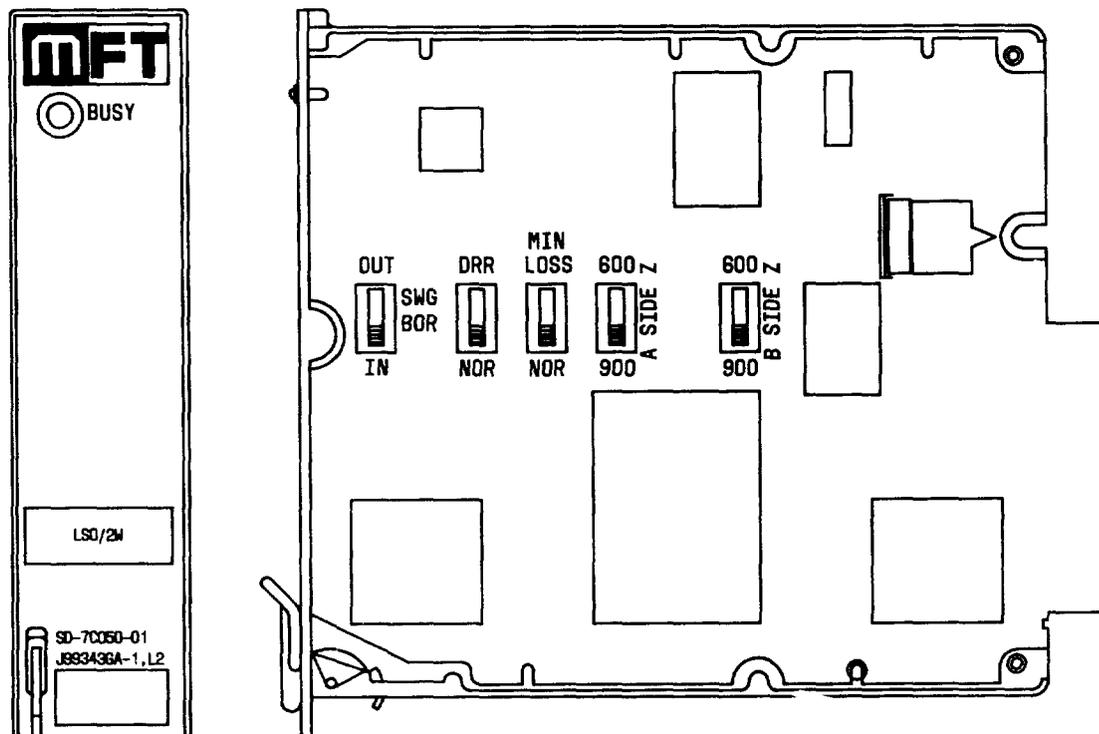
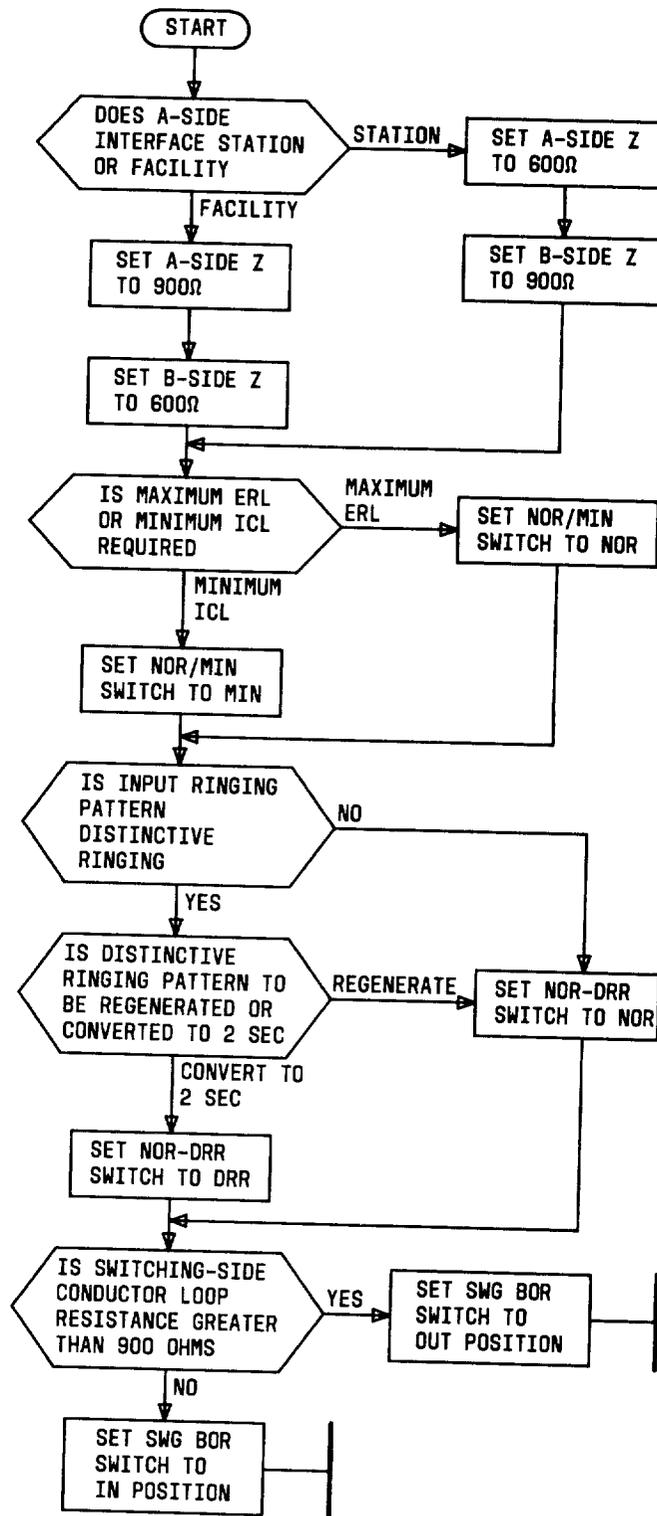
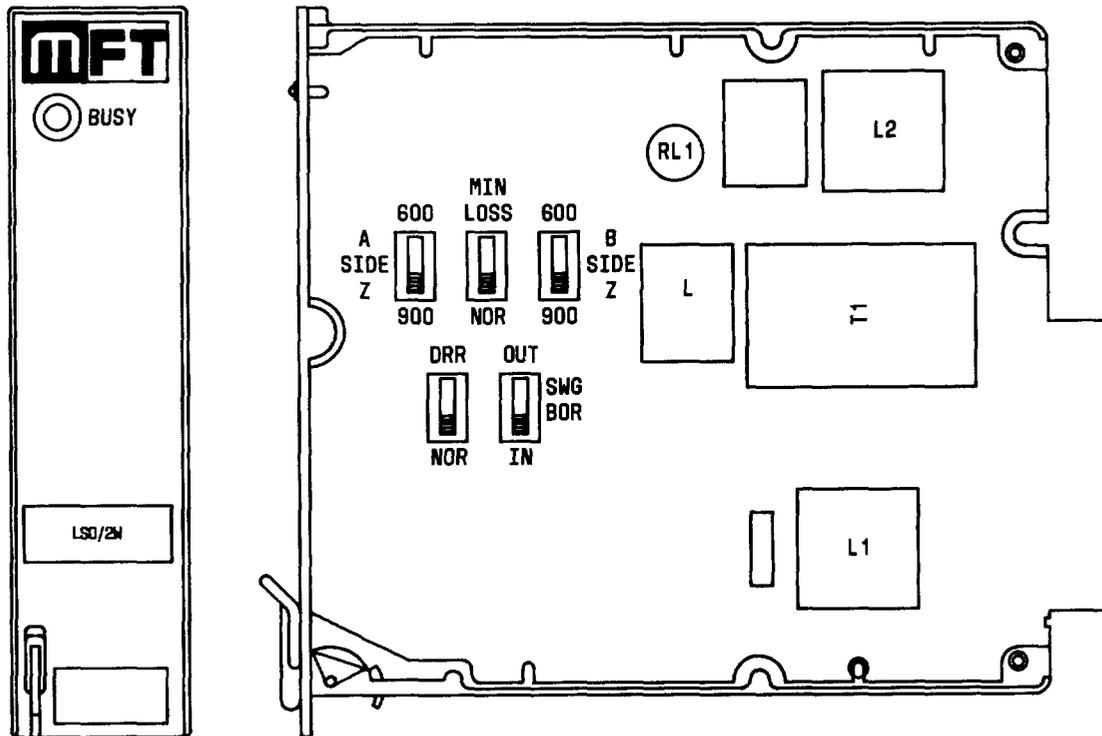

Fig. 3—Component Layout, J99343GA,L2
Fig. 4—Typical Initial Switch Setting Decision Process for J99343GA, L2, L3
Fig. 5—Component Layout, J99343GA, L3
3.01 The J99343GA, L2, shown in Fig. 3, provides the functions of a 2-wire passive transmission unit and a loop signaling repeater, loop-start only signaling unit on a single MFT plug-in. The CFUs can be used in either a single- or a double-module arrangement. They can be mounted in any slot of a single-module shelf or in the transmission slot of a double-module shelf. In double-module applications, the companion signaling unit slot must be vacant. Section 332-910-101 contains additional information on MFT mounting arrangements.
3.02 Figure 3 shows the location of the individual switches. The initial settings are determined by circuit application and are to be provided by the local circuit layout organization. Figure 4 illustrates a typical decision process to aid in determining the
**4.01** The J99343GA, L3, shown in Fig. 5, provides the functions of a 2-wire passive transmission unit and a loop signaling repeater, loop-start only
**4.02** Figure 5 shows the location of the individual switches. The initial settings are determined by circuit application and are to be provided by the local circuit layout organization. Figure 4 illustrates a typical decision process to aid in determining the initial switch settings of the unit. The following paragraphs provide a brief description of the individual switches.